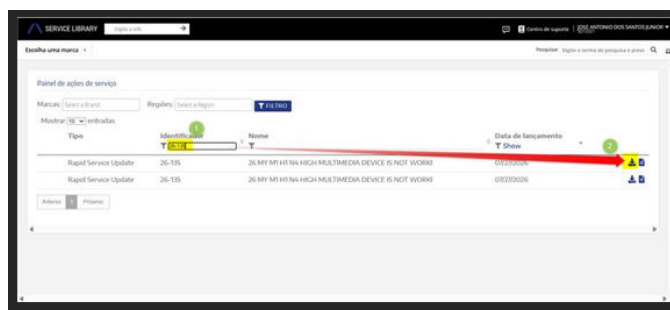

Fig. 2
9. Then download the update file - File available in the Service Library Fig. 2: